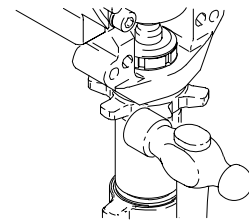

Fig. 18 7673B
6. Fig. 18. Loosen locknut by hitting firmly with a 20 oz (maximum) hammer. Unscrew pump.